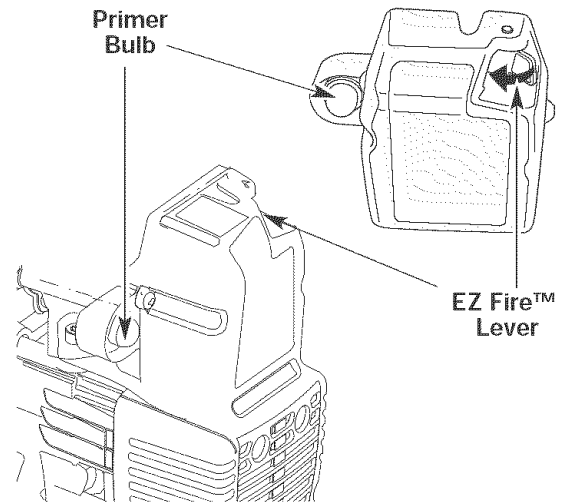

Fig. 9
3. Fully press and release the primer bulb 10 times, slowly. Some amount of **fuel should be visible in the primer bulb** and fuel lines (Fig. 9). If you can't see fuel in the bulb, press and release the bulb as many times as it takes before you can see fuel in it.
4. **Push the blue EZ Fire™ Lever towards the primer bulb** until it clicks and locks into place (Fig. 9).